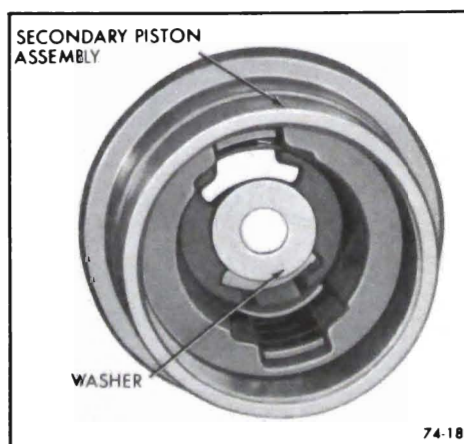

Figure 74-174
1. Install washer into secondary piston assembly. See Figure 74-174.